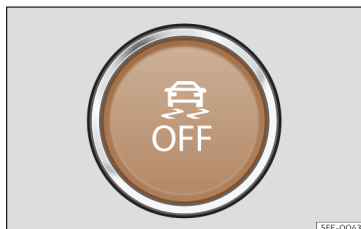

Fig. 129 On the lower part of the centre console: ESC on/off button (depending on the version).
- The TCS can be switched on and off by briefly pressing the  button on the centre console >>> **Fig. 129**.
- In Sport mode, the ESC can be switched off and on by briefly pressing the  button on the centre console >>> **Fig. 129**.
- The ESC can be switched on and off by briefly pressing the  button on the centre console >>> **Fig. 129**.